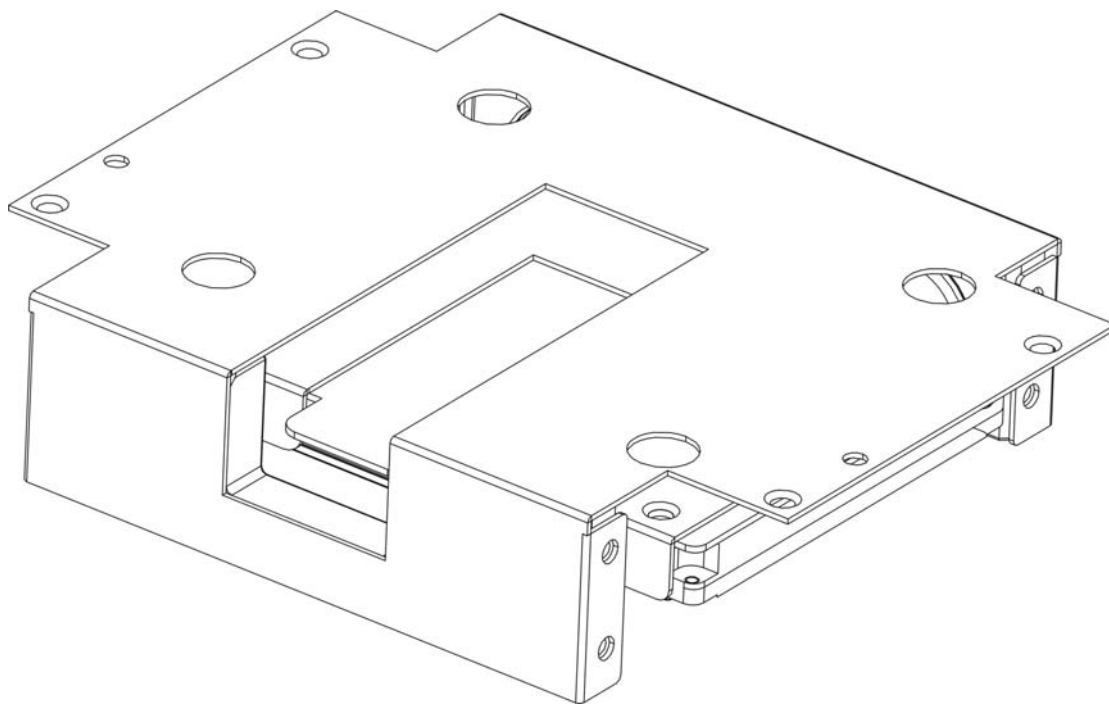

Figure 2-16
4) Now the bracket is shown as below after you fastened the HDD bolts. See Figure 2-16.